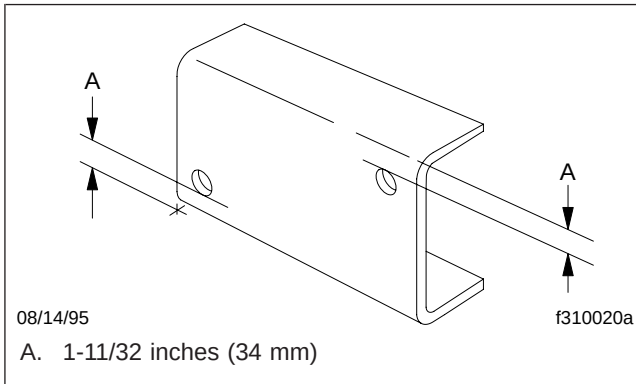

Fig. 9, Minimum Distance for Drilling Holes
- The *edge* (not the center) of the hole must be no closer than 1-11/32 inches (34 mm) from the outer face of the flange. See Fig. 9 for the minimum distance to the flanges that holes can be placed on the web.